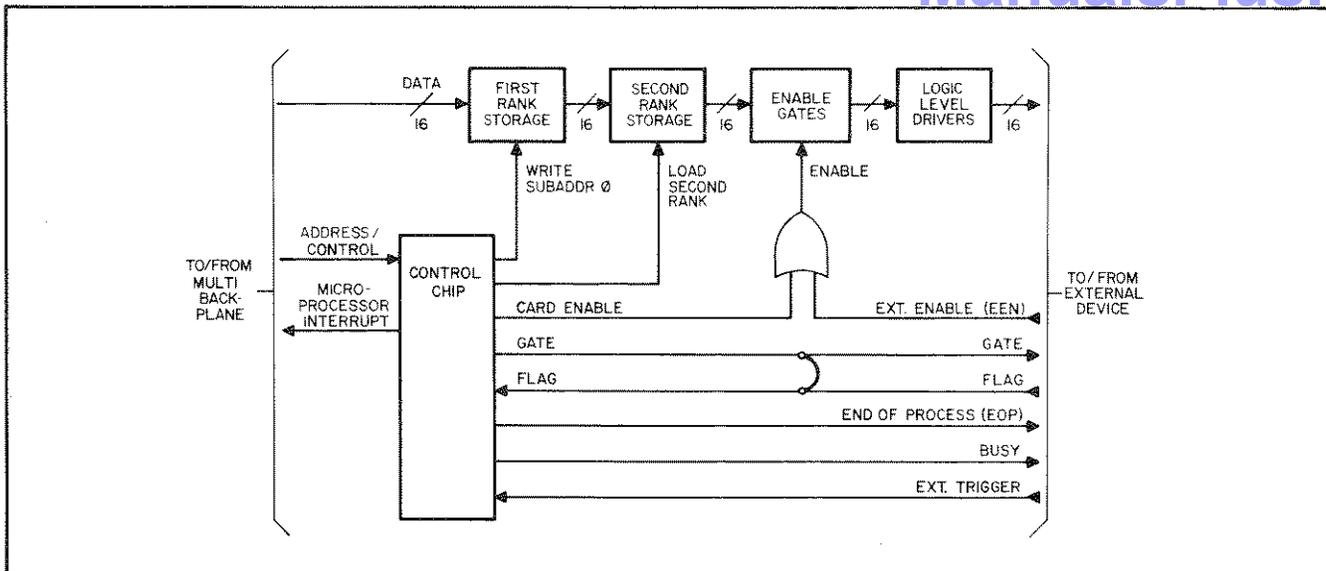
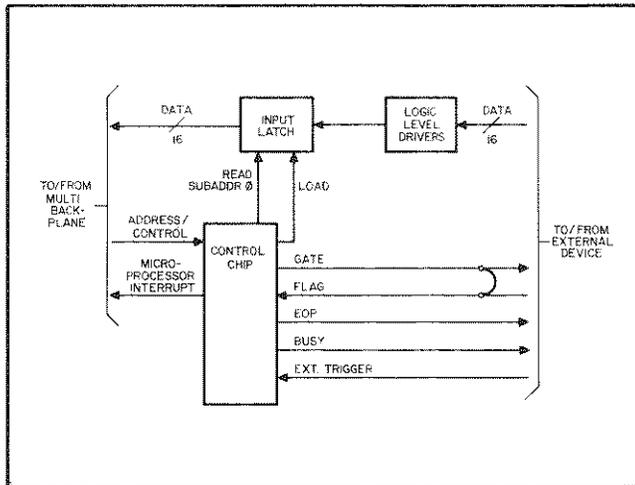

Figure 4-2. Digital Output Card, Simplified Block Diagram
Figure 4-6 Digital Input Card, Block Diagram
4-35 Figure 4-2 is a simplified block diagram of a Digital Output card illustrating the data flow, the major control signals, and the signals available at the card's edge connector. Referring to Figure 4-2, let's look at exactly what operations are performed when programming an OP instruction to a Digital Output card. Assume that the card is installed in card slot 1 and instruction "OP,1,123T" is programmed. This instruction sends the binary pattern representing 123 to the card. The OP instruction performs two basic operations on the card. First, the data is sent to the first rank storage register on the card. Although the card now has the data, it has not yet been sent to the output terminals. The second operation consists of cycling the card which transfers the data to the card's edge connector via the second rank storage register, the enable gates, and the logic level drivers. The cycling operation also generates a gate signal which initiates the gate/flag sequence (handshake cycle). Completion of the gate/flag sequence indicates that the card has completed operations. With the gate/flag jumper installed as shown in Figure 4-2, the sequence is completed instantaneously. Removal of this jumper allows the external device to determine the completion of the handshake cycle (see paragraph 4-38). Whenever an I/O card completes its handshake cycle the end-of-process (EOP) signal is generated. Certain instructions (such as OP and IP) require that each card, specified in the instruction, signal (interrupt) the microprocessor when it completes operations. These types of instructions automatically "arm" the card which will cause the EOP signal to generate the "Microprocessor Interrupt" signal (see paragraph 4-44). The arming circuit is inside the control chip on Figure 4-2.
**4-37** The gate/flag handshake on the D/A Converter card works in a similar manner, except the timer is only 6 microseconds. Cards like the Digital Output shown in Figure 4-2, require no delay whatsoever. As soon as the data is stored in the second rank of storage, it appears at the output terminals and the gate/flag sequence completes instantly.
**4-39** To solve this problem, remove the gate/flag jumper (see Figure 4-2) from the Digital Output card to extend the gate/flag handshake to the external device. The external device, such as the D/A in the above example, can then control when the Digital Output card signals completion, thus, guaranteeing that it will always be ready for the next data word. This is called synchronizing the external device to the Multiprogrammer. Each data transfer occurs only when both the Multiprogrammer and the external device are ready for it.
4-45 Not all instructions arm the card. The write and cycle (WC) instruction used to program output card, simply sends data to the card(s) then cycles the card(s). The cycle (CY) instruction simply cycles the card. Cards may also be cycled by applying an external trigger to the external trigger input on the card (see Figure 4-2). The Arm Card (AC) instruction can be used to enable cards that are being externally triggered or programmed with a "WC" or "CY" instruction to interrupt the microprocessor upon completion of their data processing. These interrupts are called "armed card interrupts" and are discussed in detail in Chapter 6. Note that if a card is cycled without first being armed, the EOP signal will go high indicating that the card completed its operation but will not be reset by the microprocessor until another instruction addressing the card is programmed.
4-46 **Card Enable.** All output card types have a card enable circuit that disables the card outputs when power is initially applied. (The enable circuit for the Digital Output card is shown in Figure 4-2.) A card's outputs remain disabled until the Multiprogrammer's system enable (SYE) line is turned on and the particular card is cycled for the first time. The SYE line is one of the control signals applied to the control chip on each card and is turned on when the first instruction is executed. An individual card is not enabled however until it is cycled. When disabled, an output card is set to a "safe" state (e.g. relays on a Relay Output card are opened).
4-48 Figure 4-6 is a simplified diagram of a Digital Input card. The input operation is the reverse of the output. The card is cycled, loading the data on the input terminals into the input latch. At this point the control chip signals the microprocessor that the card has completed and the microprocessor responds by reading the data from the input latch. The identical sequence, sampling the data on the edge connector, loading it into the input latch, signalling the microprocessor, and then having the microprocessor read the input latch, is performed on every type of input card. Note that the card enable circuit shown in Figure 4-2 for the Digital Output card does not apply to the input cards.